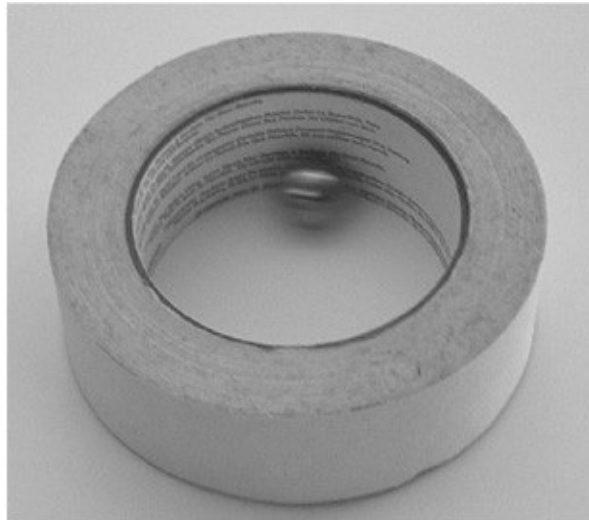

Figure 12-2 *Marble kept in a circular path by centripetal force from a tape roll.*
2. Get the marble spinning rapidly in a circular path, as shown in Figure 12-2.